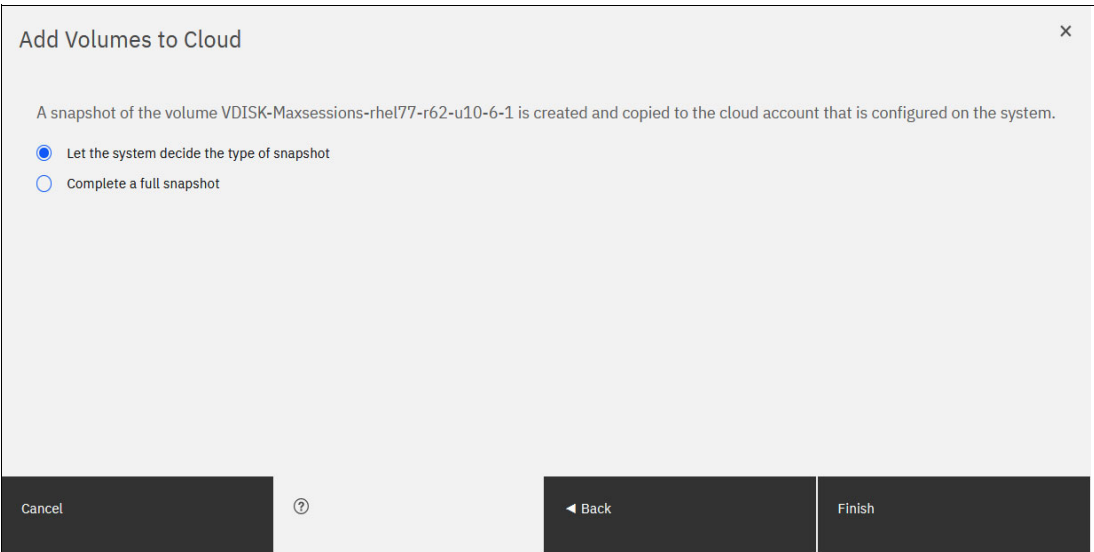

Figure 10-73 Selecting if a full copy is made or if the system decides
- The second option creates a full snapshot of one or more selected volumes. You can select the second option for a first occurrence of a snapshot and click **Finish**, as shown in Figure 10-73. You can also select the second option, even if another full copy of the volume exists.